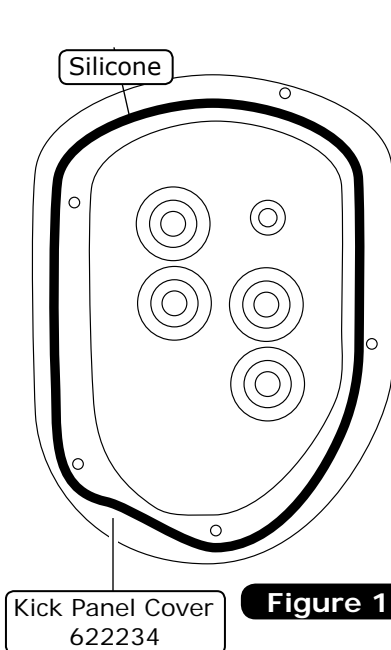

Figure 1
1. Apply a bead of silicone around the mating surface of the kick panel cover (See Figure 1, below).
3. Install the kick panel, routing the hoses and wiring through the opening. Secure the panel using (4) #8 x 1 1/4" screws with washers (See Photo 1, below). **NOTE: Use only the mounting holes shown in Photo 1, below, at this time.**
2. Install the straight fitting on the #6 drier/evaporator A/C hose onto the expansion valve on the evaporator unit using a properly lubricated #6 O-ring (See Figure 1, Page 16, and Photo 2, below).
5. Remove the support board (if used), and roll the evaporator into its mounting position. Insert the (2) 1/4-20 x 1 1/2" studs into the upper OEM mounting holes on the firewall (See Photo 5, below).
6. Install the 45° fitting on the #10 compressor/evaporator A/C hose onto the #10 fitting on the evaporator using a properly lubricated #10 O-ring (See Figure 1, Page 16, and Photo 6, below). NOTE: After installing the #10 compressor/evaporator A/C hose, wrap all exposed metal with the supplied press tape (See Photo 7, below).
7. Install (2) #8 U-nuts onto the evaporator dash bracket (See Photo 8, below). Position the evaporator dash bracket under the glove box door mounting holes, and install it onto the evaporator unit using (2) 1/4-20 x 1/2" bolts (supplied on the evaporator unit) (See Photos 9 & 10, below).